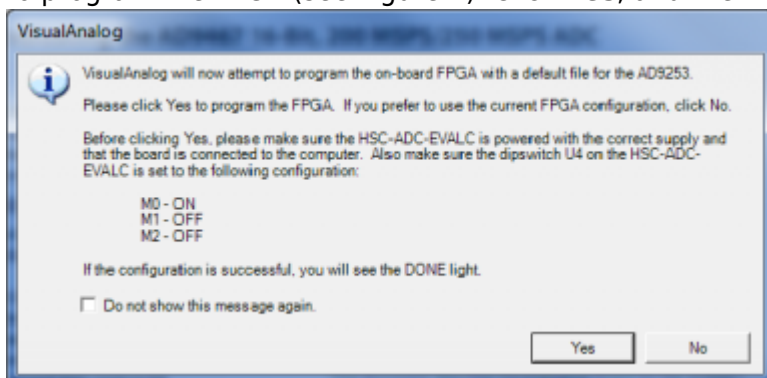

Figure 4. VisualAnalog Default
2. After the template is selected, a message appears asking if the default configuration can be used to program the FPGA (see Figure 4). Click **Yes**, and the window closes.